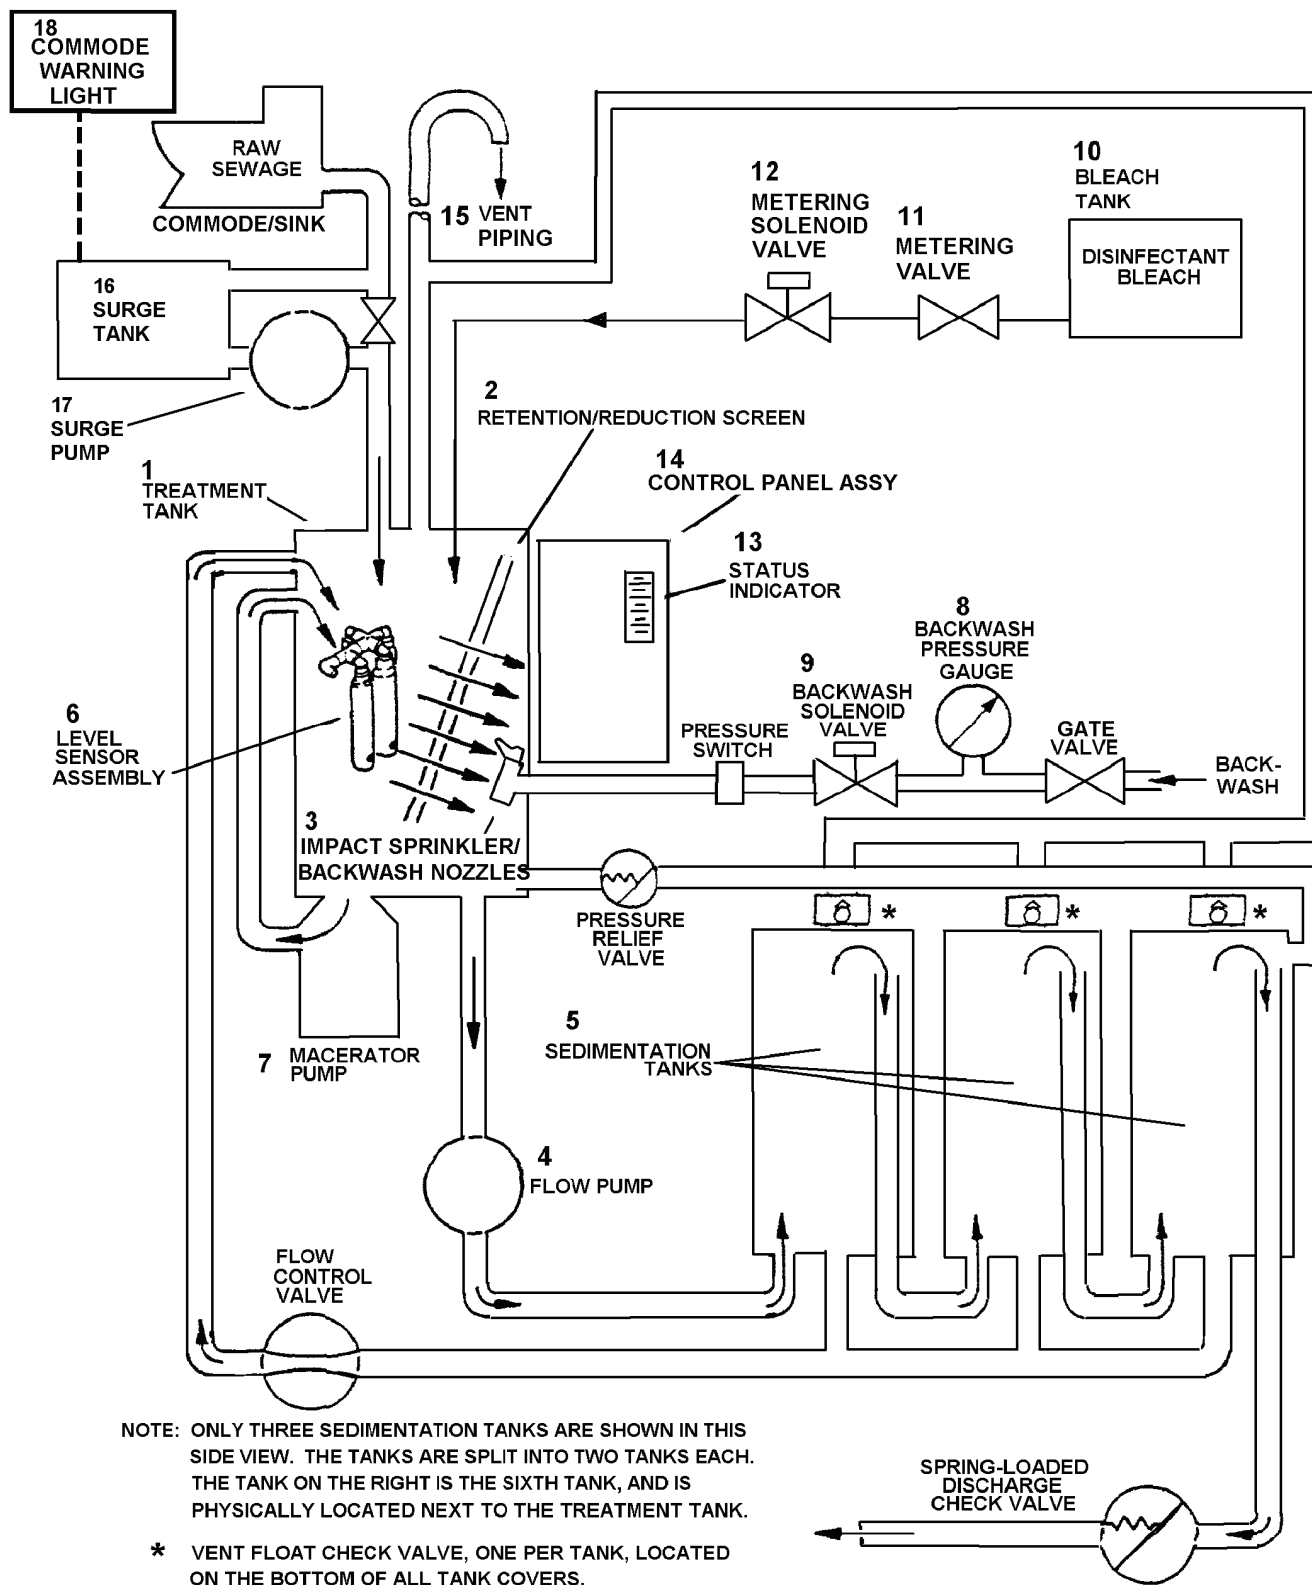

Figure 1-4. Functional Block Diagram/Interface.
b. Treatment Process. (Figure 1-4.)
- (1) Blackwater and graywater from the surge tank enters the treatment tank of the MSD. The sewage is macerated and chlorinated. The macerated sewage is continuously recirculated into the treatment tank until the solids are small enough to pass through the retention/reduction screen. The retention/reduction screen is continuously backwashed to prevent solid build up and clogging/plugging. Sewage particles that passed through the screen enter the inlet of the flow pump, which pumps the sewage into the sedimentation tanks. Any agglomerated solids fall to the bottom of the sedimentation tanks and are returned via the sludge flow control valve to the treatment tank for further processing. If pressure in the discharge line builds up above 35 psig (241.5 kPa), the pressure relief valve opens to allow the return of processed sewage into the treatment tank.
- (2) The processed effluent is discharged from the MSD through a spring loaded check valve. The check valve creates a back pressure to allow flow through the sludge return lines. The minimum pressure required to start opening is 5 psi (34.5 kPa). This pressure will increase as the discharge flow increases. The effluent is disinfected with a bleach solution (sodium hypochlorite and water) and chemical oxidation within the treatment tank. Disinfection is accomplished by a metering system (solenoid and needle valve) that meters an appropriate amount of bleach into the treatment tank. The bleach solution is stored in a 10 gallon tank mounted above the treatment tank.
- (3) The level sensor assembly is located on the inlet side of the retention/reduction screen and consists of four electrodes (ground, low level, demand level, and high level). The level of the sewage in the treatment tank in relation to the electrodes is sensed by the microprocessor in the circuit control board assembly.
- (4) When the sewage level reaches the tip of the demand electrode, an 18 minute cycle is started. If the low level electrode is uncovered after 18 minutes, the MSD stops processing sewage and goes into the standby mode. If the low level probe is covered after 18 minutes, another 18 minute cycle continues without interruption and the cycles are repeated, if necessary, until the low level probe is uncovered. If the sewage level covers the high level electrode, the HIGH LEVEL LED light on the status indicator (control panel) begins flashing. If the high level condition persists for 10 minutes, the MSD will shutdown automatically. During this automatic shutdown period, the LED light on the status indicator will remain illuminated. The MSD will not automatically restart after a power failure, the reset pushbutton must be depressed to restart the MSD system.
1-12. Functional Description Of Components. The component descriptions are listed in the order of flow. See Figure 1-4 for location of item.
- (5) Device will now operate automatically in 18 minute cycles as required. See Figure 1-4 for Functional Block Diagram/Interface.